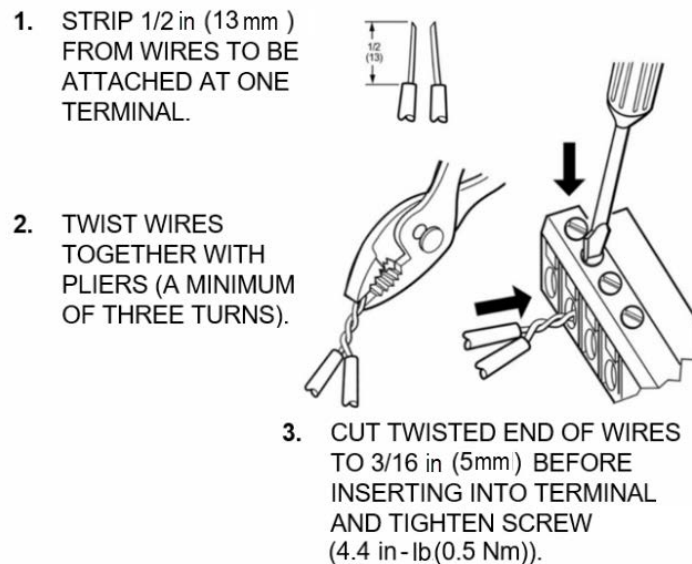

Fig. 10 Attaching Two or More Wires at Terminal Block
- If two or more wires are being inserted into one terminal location, twist the wires together with a minimum of three turns before inserting them, see Fig. 10.